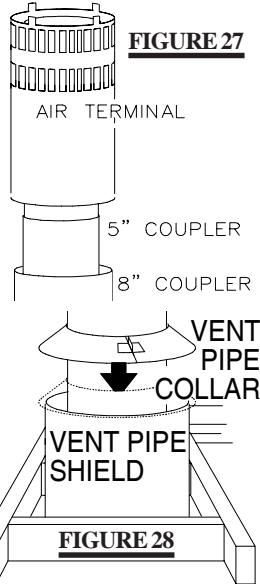

FIGURE 27
4. Apply high temperature sealant to the outer edge of the of the outside sleeve of the air terminal. Slip a 8" diameter coupler over the sleeve and secure as before. **FIGURE 27.** Trim the 8" coupler even with the 5" coupler end.